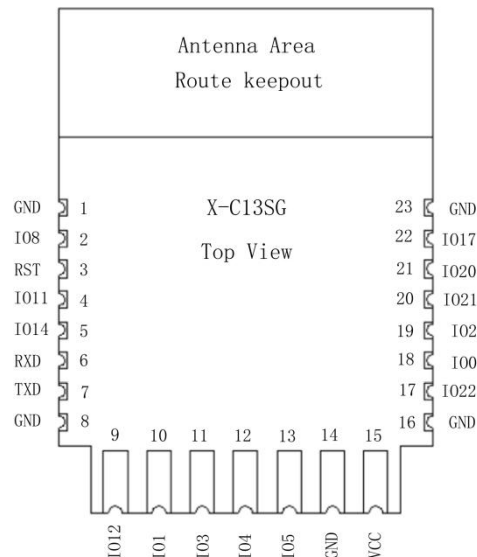

Figure 2. X-C13SG Pin Layout (Top View)
- X-C13SG comes with a on-board PCB antenna, please refer to Figure 2.